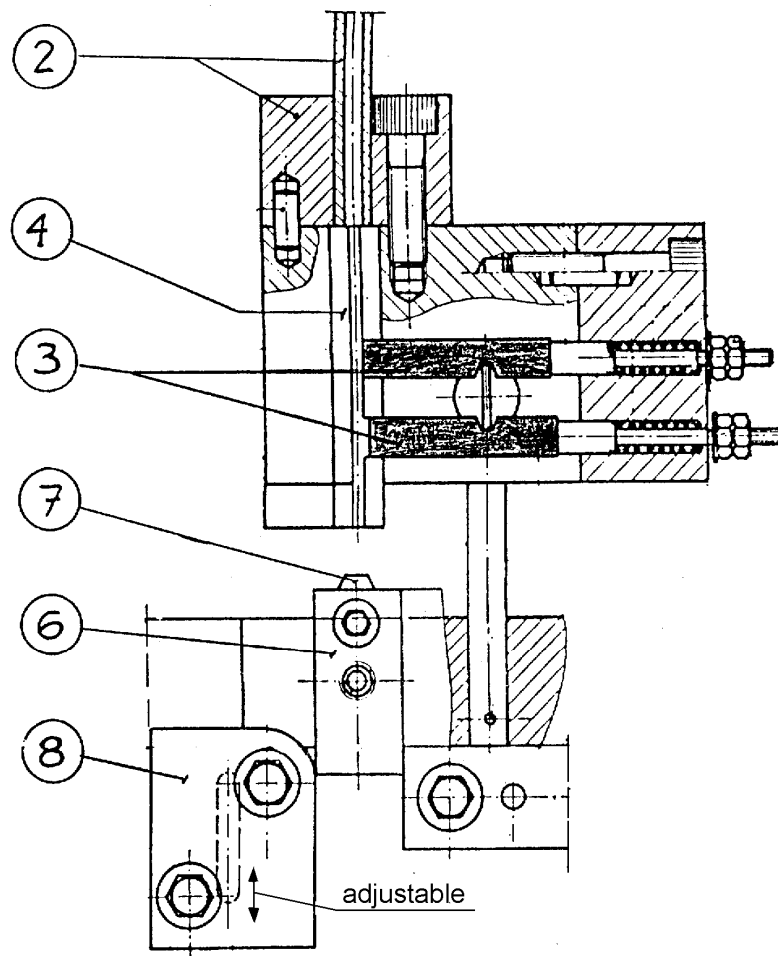

Fig. 9
5. Put tip into tip transfer slide and check that refill also is lined up with this station. If a difference between the injection and tip mounting-station is observed adjustment is possible on the tip mounting station by means of the stop plate N. 8, Fig. 9